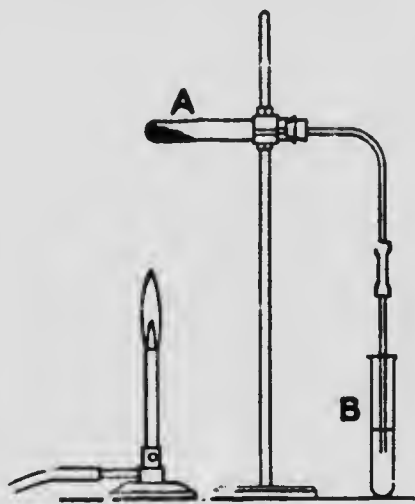

FIG. 49.
6. Place 2 grms. of a mixture of copper oxide and powdered charcoal already prepared (75 grms.  $\text{CuO}$  and 25 grms.  $\text{C}$ ) in a hard glass test tube, A, Fig. 49, fitted with a one-hole cork and delivery tube. Heat and pass the evolved gas into lime-water contained in test tube B. Note the effect of the gas on the lime-water, and when **the tube is cold** examine the residue left in the hard glass tube.